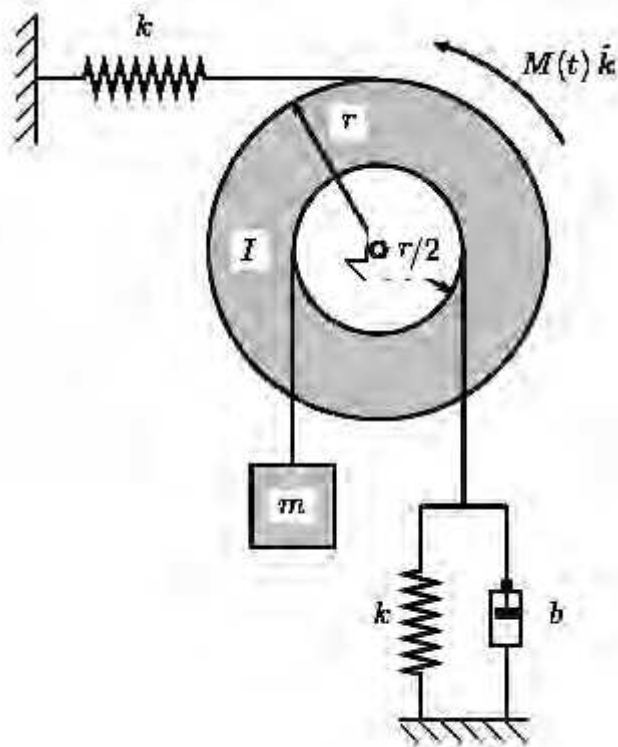

Figure 3:
7. In the figure 3 shown below, the disk is subjected to a time independent moment of the form